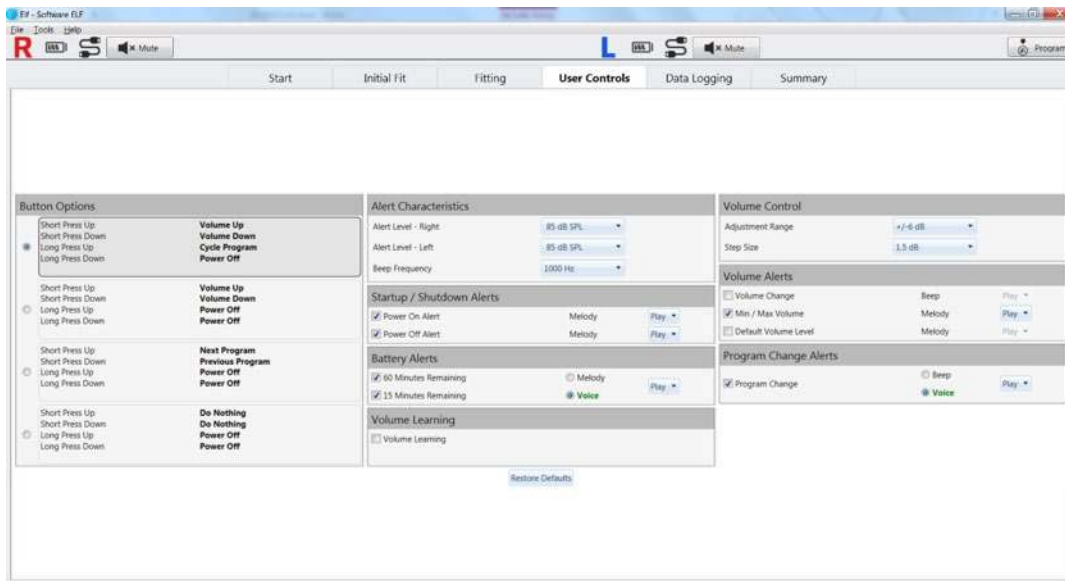

Figure 14. User Controls screen
- **User Controls:** Set the user control configuration on the Processor, customize alert settings and enable Volume Learning (Figure 14).